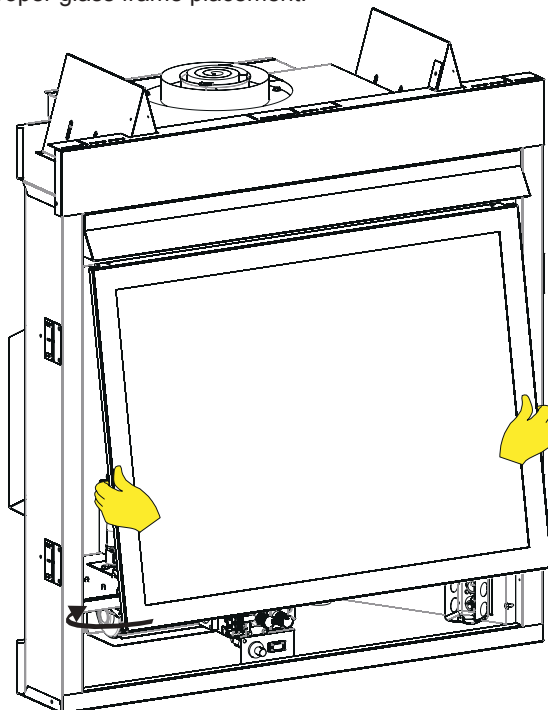

Figure 84
2. Gently lower the glass frame into place. See Figure 84 for proper glass frame placement.
- Check all latches or other door retention components for proper operation, tension, and relief mechanisms are free from obstructions. **See Figures 84 and 85.**